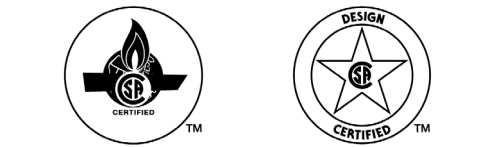

Fig 1
2. SIKKERHEDS-INFORMATION (fig. 1)
2. SAFETY INFORMATION (fig.1)